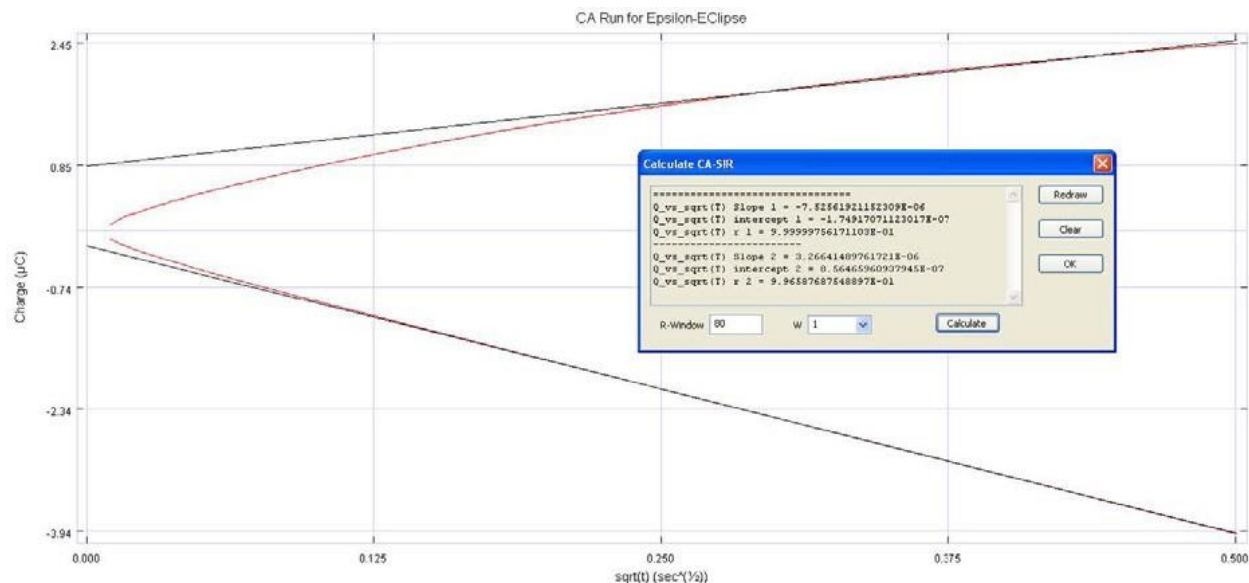

Figure 12 - Calculation of slope and intercept of linear plot
13. The Epsilon EClipse™ software can calculate the slope and intercept of the linear **Q vs sqrt(T)** plot when it is displayed. Selecting **Calculate CA-SIR** from the Analysis menu generates the information box shown in Figure 12. The lines used for the linear fitting are the dashed blue lines in Figure 12 (note that the first 20% of the data points are not used in the calculation, due to interference from the charging current and other experimental artifacts).